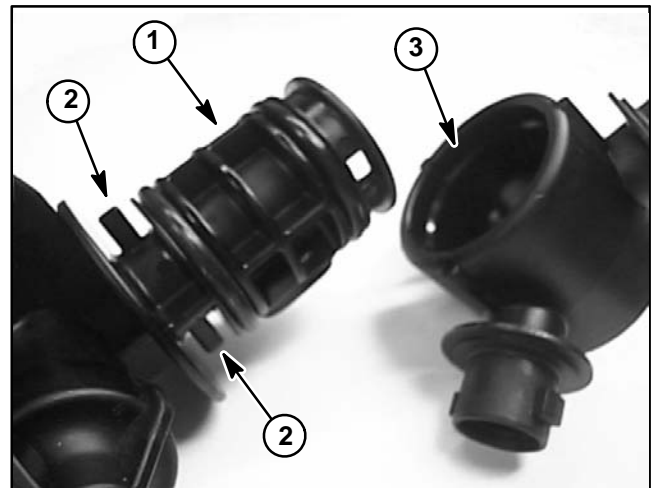

Figure 34
A. The end of the turret with the slightly larger bore has detent grooves (Fig. 34). The detent grooves need to align with the detent posts on the body.
B. Make sure to align notch on plug (item 10) with groove in body (item 4) as plug is installed.
C. Install e-clip (item 5) into body to secure assembly.